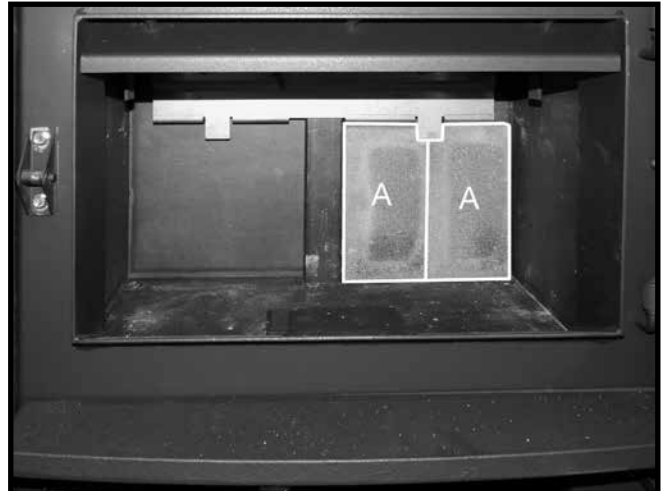

Figure 7. Installing the 2nd of the rear wall bricks
2. Slide a 2nd "A" firebrick underneath the tab on the brick rail Figure 7.